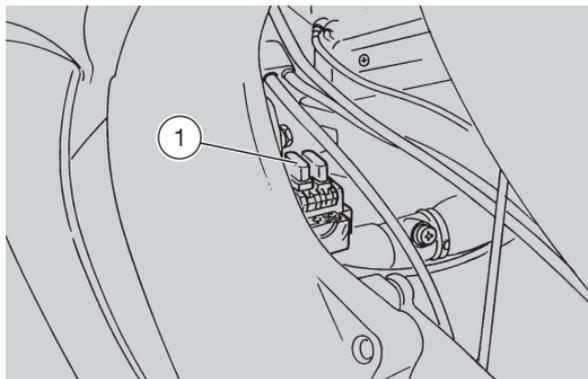

Fig. 52
CHANGING THE FUSES (Fig. 52)
- extract the fuses one by one (1-Fig. 52) and check if the filament is broken;